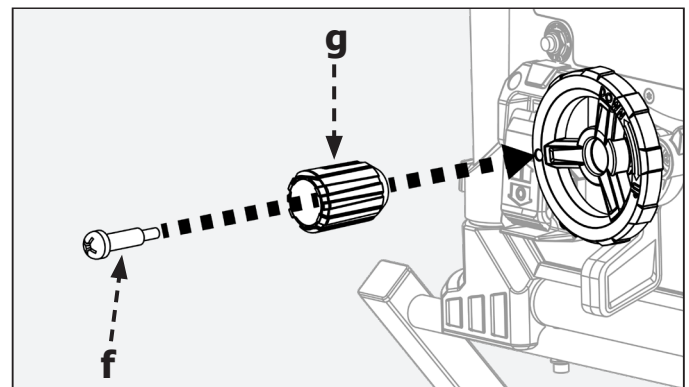

FIGURE 9
- Insert shoulder screw (f) into height adjustment knob (g) as shown in (FIGURE 9).